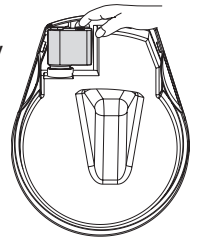
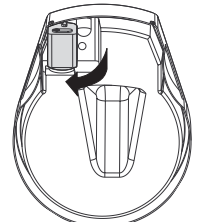

Fig. 4A
Fig. 4B
a. Turn the bowl over and remove the motor from its cavity by slipping your finger into the indentation behind the motor (Fig. 4A) and pulling that end of the motor out toward you so that it has turned a quarter of a turn, (Fig. 4B). Do not attempt to remove motor without turning it 90 degrees, this may damage the fountain and cause a leak.
1. Turn the bowl over. Reattach the motor by pushing the threads of the motor through its hole in the bowl. The motor goes in at a right angle to the bowl, (as it was when you pulled it out toward you to remove it, Fig. 4B). In order for the motor to screw or turn into place, the threads must be pushed past the threads of the bowl. If you cannot turn the motor into its resting position, it is not pushed into the hole as far as it will go.